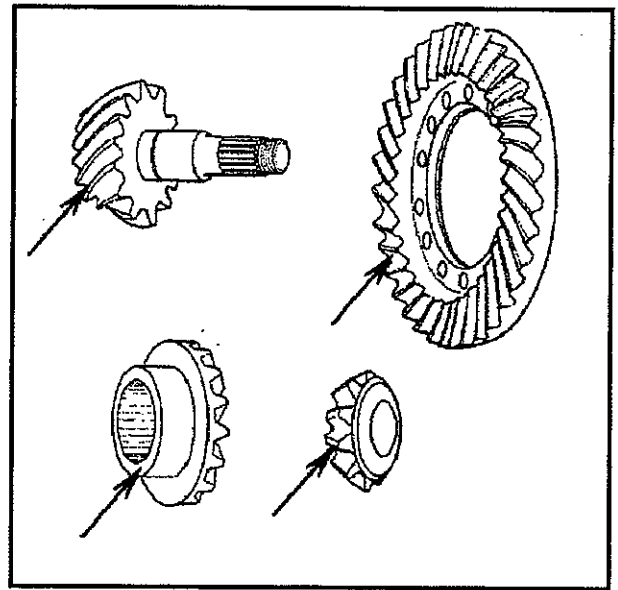

Figure 17—Gear Inspection Areas
2. Inspect gears for excessive wear or damage. Replace gears that are pitting, scored, broken or worn. (See Figure 17—Gear Inspection Area.)